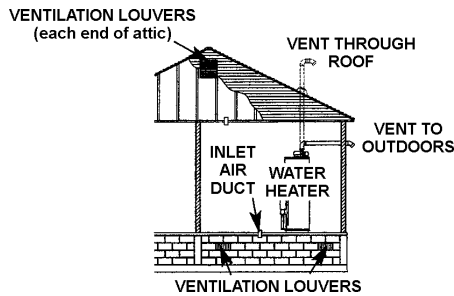

FIGURE 12.
**B. ALL AIR FROM OUTDOORS:** (See Figures 12, 13 and 14)
1. When directly communicating with the outdoors, each opening shall have a minimum free area of 1 square inch per 4,000 Btu per hour (5.5 cm2/kW) of total input rating of all equipment in the enclosure, see Figure 12.